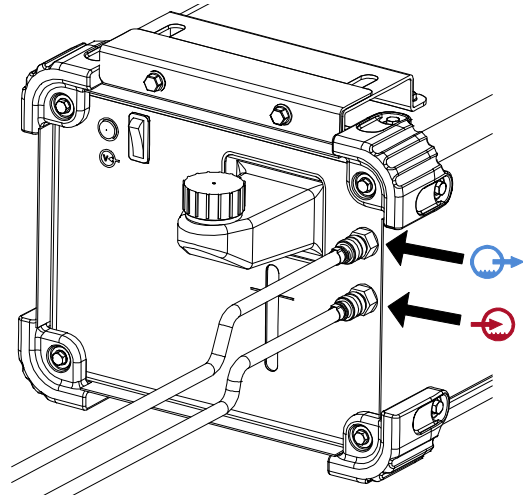

Figure 7.
- Connect the torch water-cooler hoses – Figure 7.